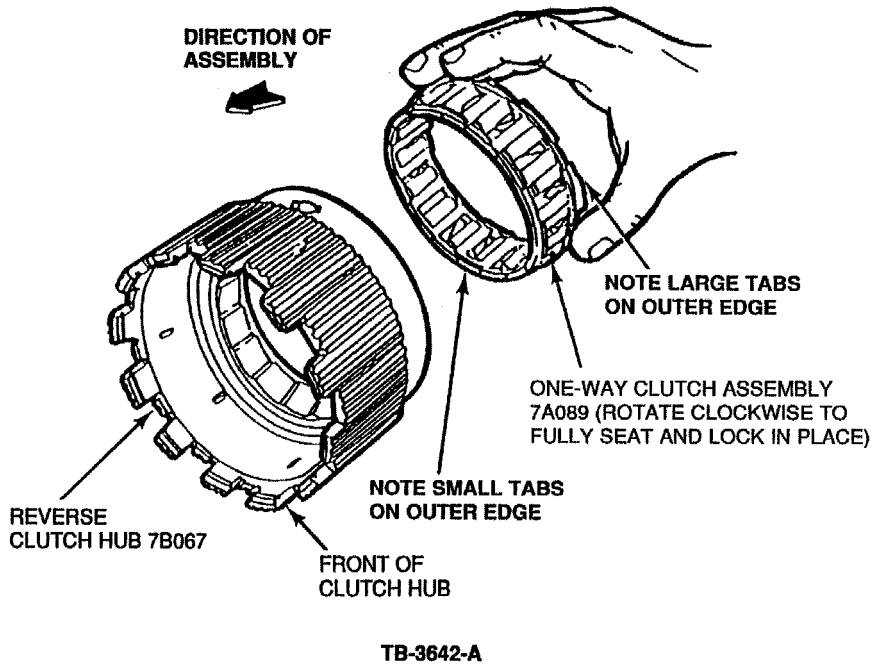

Figure 2 - Article 94-8-20
2. Rotate the One-Way Clutch Assembly clockwise to lock tabs on “Plastic Cage” and fully seat the One-Way Clutch in place, Figure 2.